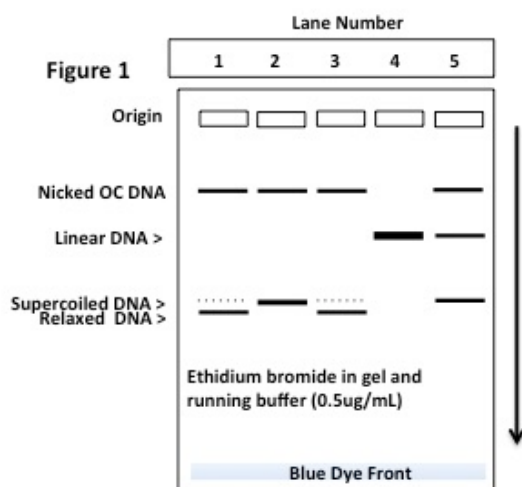

Figure 1. Representative Plasmid DNA Products from Topo IV on Agarose – Ethidium Bromide Gel.
Marker DNAs and controls (see Fig. 1) are extremely important. Any nuclease-free agarose of reasonable quality can be used. Agarose gels (1%) and running buffers can be any standard nondenaturing electrophoresis buffer (example, 1 x TAE buffer, 50x stock is 242 g Tris base, 57.1 ml glacial acetic acid and 100 ml of 0.5 M EDTA) and ethidium bromide to a final concentration of 0.5 ug/ml (5 ul of a 10 mg/ml ethidium bromide (EB) stock per 100 ml of running buffer). Include EB in the gel and running buffer. Run gels at 1.5-2 V/cm (measured between electrodes) until the dye front has traveled about 80% of total gel length. The DNA can be monitored during electrophoresis with a handheld ultraviolet light. After running, gels should be destained (30 min) in water or buffer and photographed using a standard photodyne system. As noted above, we recommend EB gels to allow you to clearly resolve linear DNA (see below) from the topoisomers. If, however, you wish to determine whether your test compound is a catalytic inhibitor, you should run the gels without ethidium to resolve the topoisomers. The non-EB gels are also ideal for documenting relaxation activity of topo IV. As noted above, we recommend strongly that you run both non-EB and EB gels for each experiment.
Solvent controls are especially important to ensure that the drug solvent (DMSO or methanol for example) are not interfering with topo activity. Also, a quick CIA extraction prior to loading the gels is a good idea since the gels will be much more cosmetic; however, the samples must first be treated with proteinase K to digest the bound protein. CIA extractions may also be required if the test compound affects the mobility of the DNA or fluorescent detection (intercalators, strong DNA binding agents, etc.). Note also, to confirm the formation of covalent complexes, you can run the following control (refer to diagram on the cover page above). Two reactions are carried out with the inhibitor; both are stopped with SDS. One is digested with proteinase K and the other is undigested. The covalent topo/DNA complexes in the reaction that was not digested with proteinase K will be lost by CIA extraction (they will partition to the interphase) and you should lose the linears or possibly open circular DNA complexes. In contrast, the proteinase K digested sample should contain expected cleavage products (linear and nicked DNAs). Fig 1 shows a typical Gel (EB) result with the markers and controls:
E. Important Controls and Considerations (see Fig. 1)